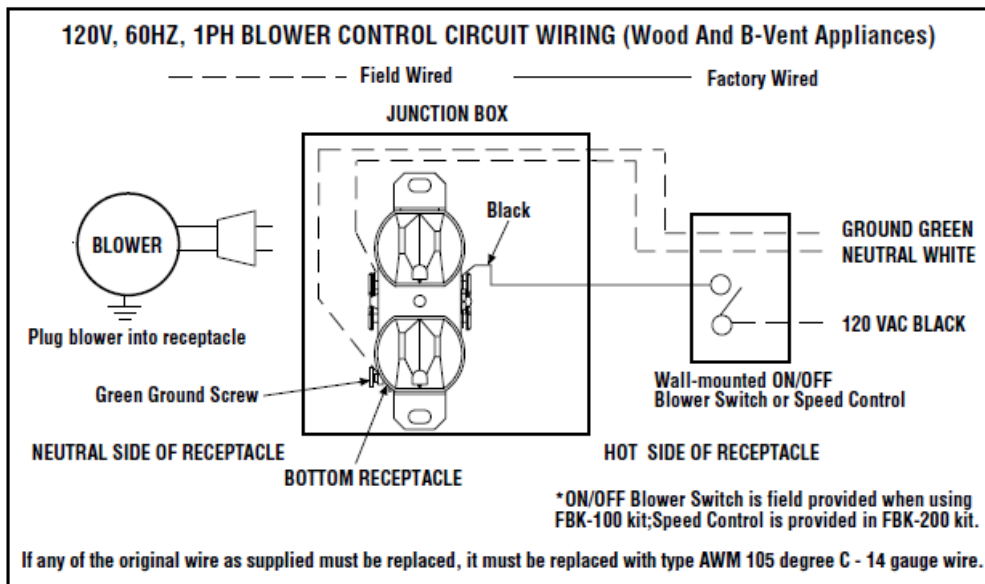

Figure 8
**Step 6.** Connect electrical outlet and switch wires to the power supply: 3-wire, 120 VAC, 60 Hz, 1 ph power supply (See Figure 8).